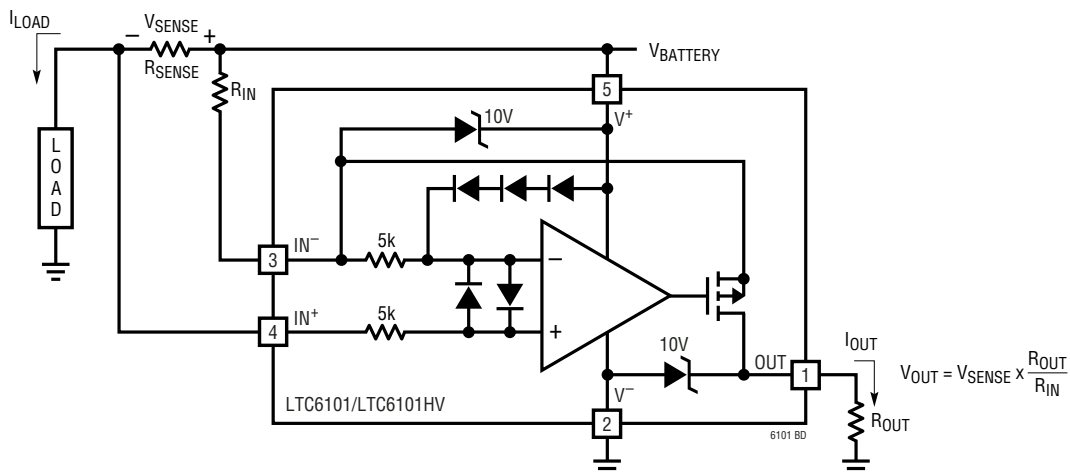

Figure 1. LTC6101/LTC6101HV Block Diagram and Typical Connection
**IN- (Pin 3):** The internal sense amplifier will drive IN- (Pin 3) to the same potential as IN+ (Pin 4). A resistor (RIN) tied from V+ to IN- sets the output current IOUT = VSENSE/RIN. VSENSE is the voltage developed across the external RSENSE (Figure 1).
The LTC6101 high side current sense amplifier (Figure 1) provides accurate monitoring of current through a user-selected sense resistor. The sense voltage is amplified by a user-selected gain and level shifted from the positive power supply to a ground-referred output. The output signal is analog and may be used as is or processed with an output filter.